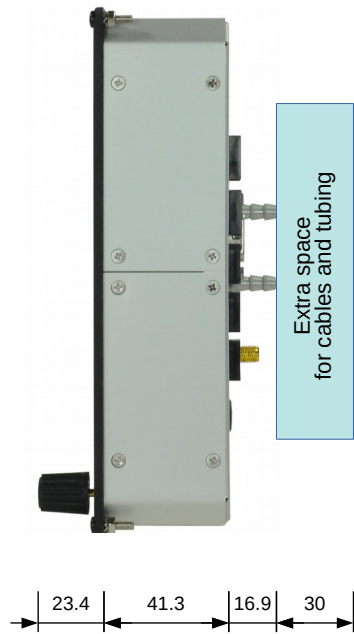
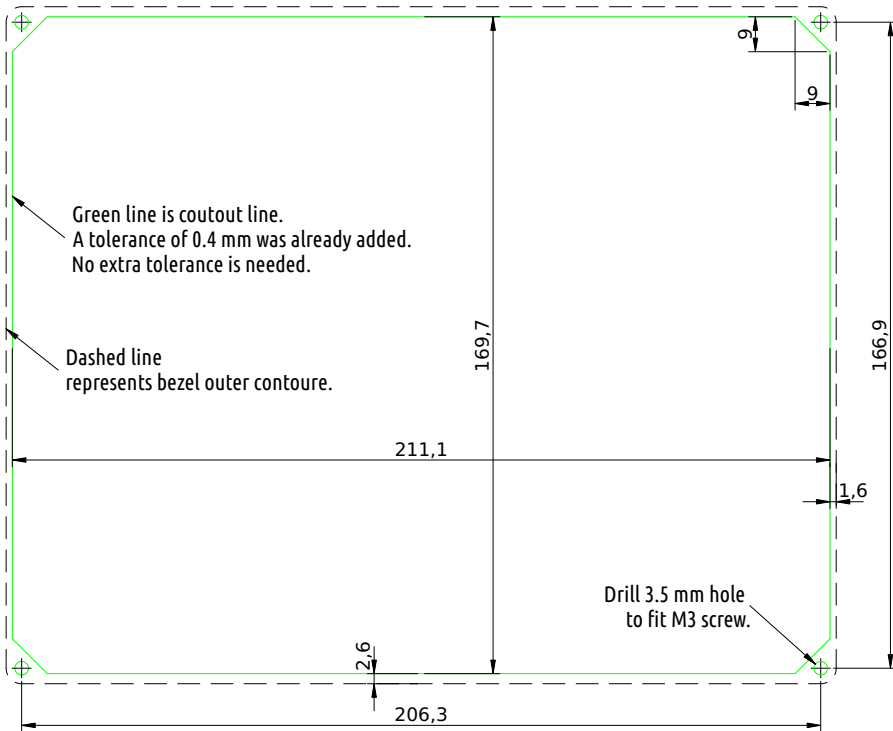

Figure 1: Nesis side view with dimensions.
Figure 4: Nesis cutout dimensions. The figure is not actual size!
- The display housing extends behind instrument panel and some extra space must also be allocated for the connectors, cables and tubes. See Figure 1 for more details.
The display main dimensions are shown on Figures 1 – 3 and Figure 4 shows the cutout.
cutout tolerance was already added to the green cutout line. Figure 4 illustrates the cutout dimension.